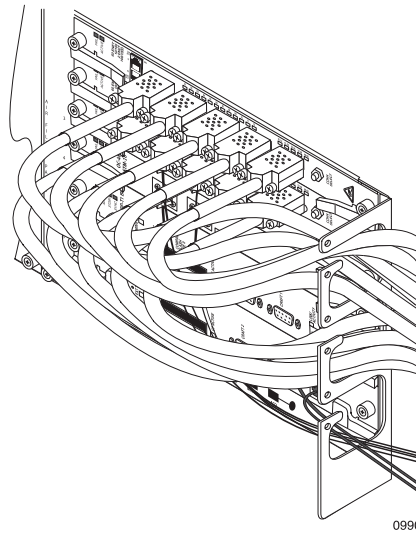

Figure 21 Routing an FE-GE Breakout Cable
- e Continue to connect and route the breakout cables for the other MRJ21 connectors on the card; see Figure 21.